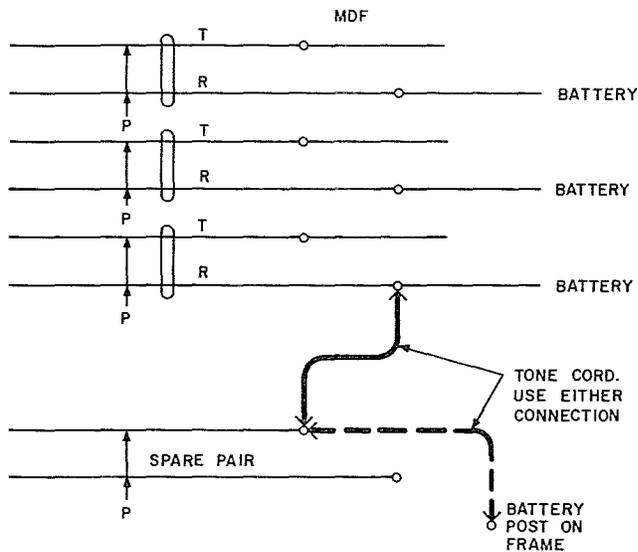

Fig. 4—Connection at Main Frame
- (c) At the main frame connect the selected spare conductor to one of the battery conductors or to one of the battery posts provided along the main frame as shown in Fig. 4.